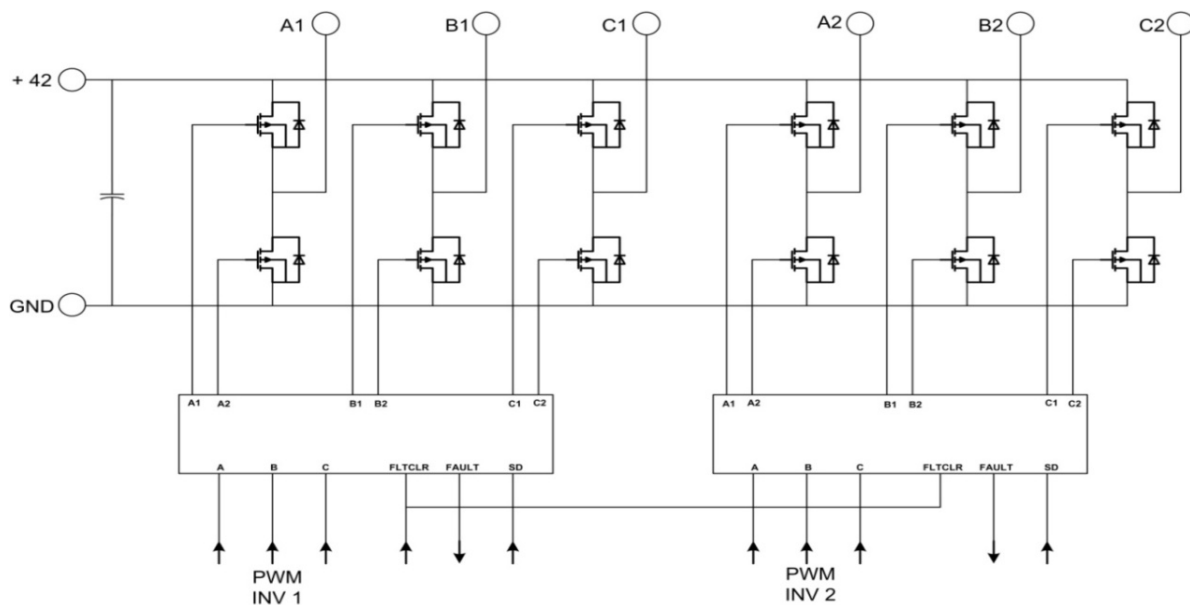
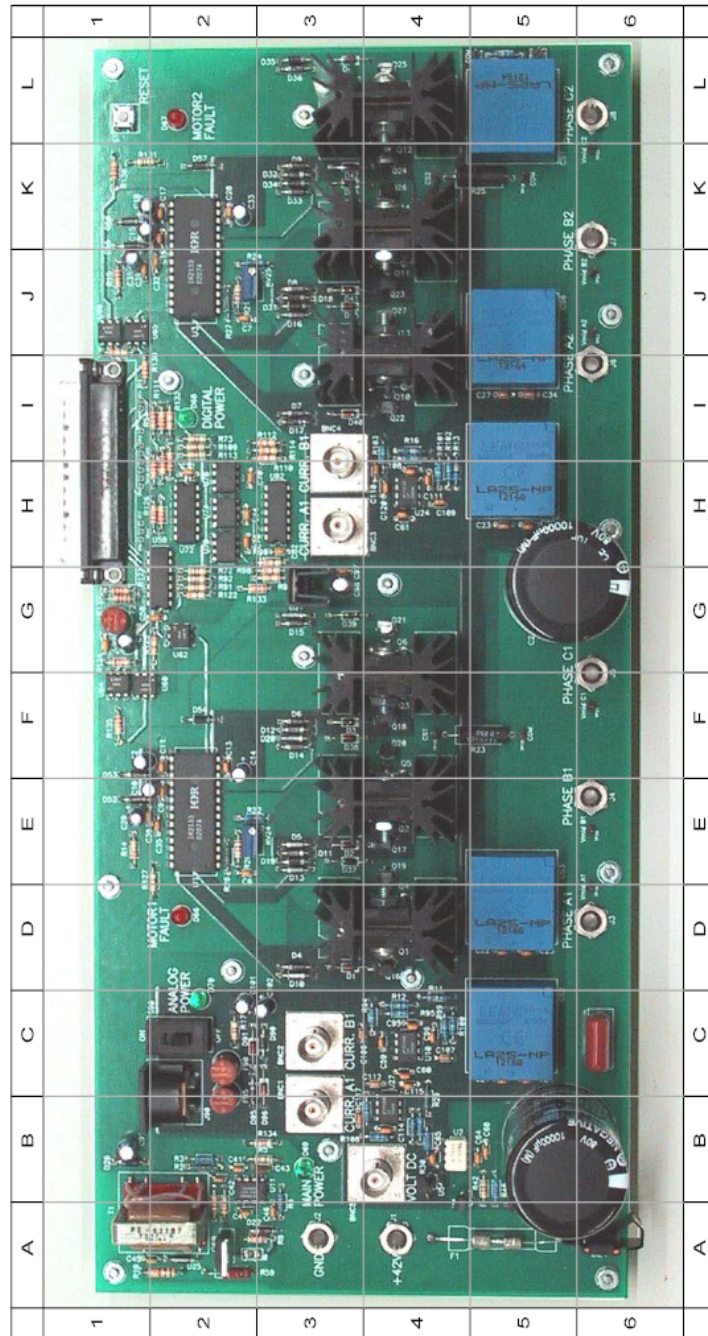
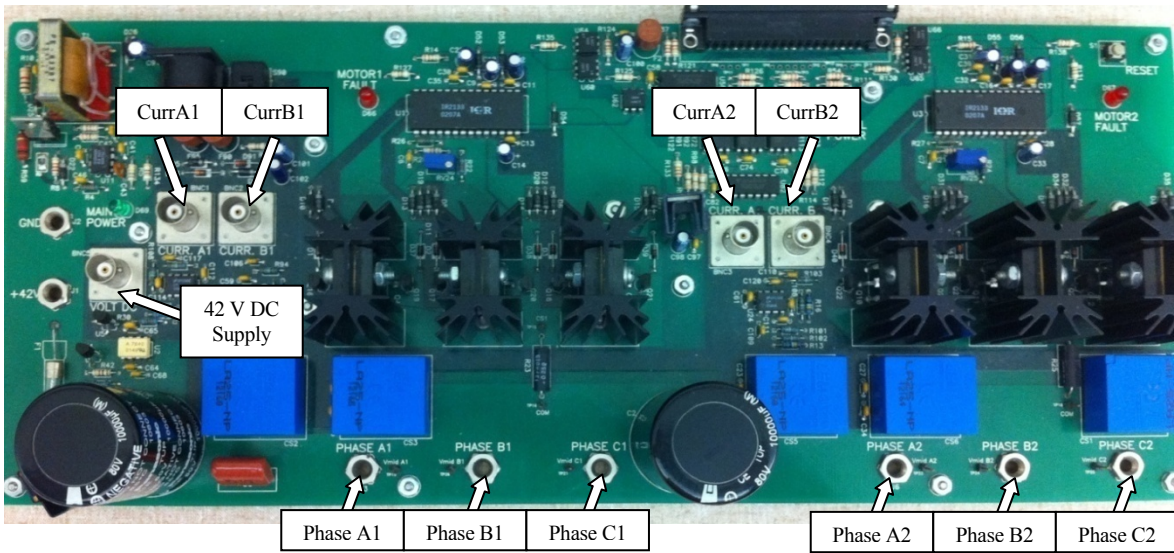

Figure 1: Block Diagram of Electric Drives Board
Figure 2: Power Electronics Drives Board
Figure 3: Power Electronics Drive Board (with key labels)
The basic block diagram of drives board is shown in Fig. 1 and the actual drives board is shown in Fig. 2. Please note that various components on this board are indicated in Table. 1.
The board of Fig 2 is shown with some additional labels in Fig 3. The two independent three phase PWM voltage sources labeled phases A1, B1, C1 and phases A2, B2, C2 in Fig 1 are obtained from a constant DC voltage source (as shown in Circuit in Fig 1). Hence two machines can be controlled independently for independent control variables, at the same time. A single phase motor needs only Phase A1 B1 for powering while three phase motor needs three phases A1, B1, C1.
The location of some key supply and measurement points are shown with labeling in Fig 3. The board provides the motor phase currents (currA1, currB1, currA2, currB2), dc-bus voltage (shown to left of Curr A1) as in Fig 4 to control the motor for a desired speed or torque.
Each 3-phase inverter uses MOSFETs as switching devices. The 3-phase outputs of the first inverter are marked A1 (D-6 in Fig. 2), B1 (E-6 in Fig. 2), C1 (F-6 in Fig. 2) shown with labels at bottom of Fig 3, and those of the second inverter are marked A2 (I-6 in Fig. 2), B2 (K-6 in Fig. 2), C2 (L-6 in Fig. 2).
± 12 volts signal supply is required for the isolated analog signals output from the drives board. This is obtained from a wall-mounted isolated power supply, which plugs into the DIN connector J90 (B-2 in Fig. 2). Switch S90 (C-2 in Fig. 2) controls the signal power to the board. The green LED D70 (C-2 in Fig. 2) indicates if the signal supply is available to the board. Fuses F90 (C-2 in Fig. 2) and F95 (B-2 in Fig. 2) provide protection for the +12 V and -12 V supplies respectively. Please note that the green LED indicates the presence of only the +12 V supply. Please note that turning off S90 will not stop the PWM signals from being gated to the inverters. The power supply for the 3-phase bridge drivers for the inverters is derived from the DC Bus through a flyback converter (A-2 in Fig. 2).
Test points are provided to observe the inverter output voltages. BNC connector VOLT DC Fig 5 and (located at B-4 in Fig. 2) has been provided to sense the DC bus voltage. To measure the DC bus voltage,
- Connect BNC connector to CURR A1 (B-3 in Fig. 2).
- Connect BNC connector to CURR B1 (C-3 in Fig. 2).
- Connect BNC connector to CURR A2 (H-3 in Fig. 2).
- Connect BNC connector to CURR B2 (I-3 in Fig. 2).
The inverters (Fig 1) are driven by 3-phase bridge drivers (IR2133). The PWM inputs are isolated before being fed to the drivers.
PWM and other digital signals for the board are to be given to the 37-pin DSUB connector in Fig 6 (and located at H-1 in Fig. 2). For pin-out description of this connector, see Table 2.
Shown in Fig 7, the Drives Board has over-current protection for each inverter. An over-current fault occurring on inverter 1 is indicated by red LED “MOTOR FAULT 1” (D-2 in Fig. 2), while that of inverter 2 is indicated by red LED “MOTOR FAULT 2” (L-2 in Fig. 2). Each time a fault occurs, reset the fault using the “RESET” switch (L-1 in Fig. 2) on the board. The switch resets all the faults.